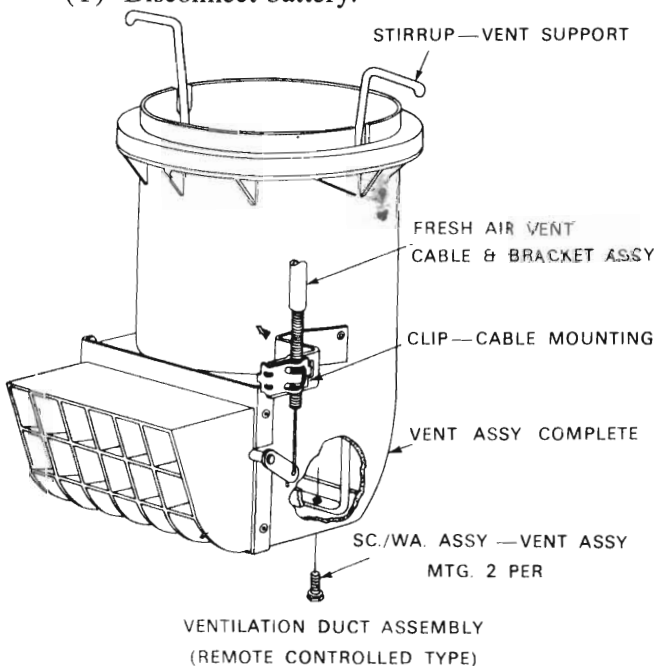

Fig. 3 - R.H. fresh air ventilator
(1) Disconnect control cable spring clip at ventilator.
(2) Remove two screws and washers from bottom of ventilator. These retain the unit by means of a hook which fits up into the plenum chamber (Fig. 3).
(3) Lower ventilator assembly from plenum chamber.
(4) Installation is a reversal of the above procedures.